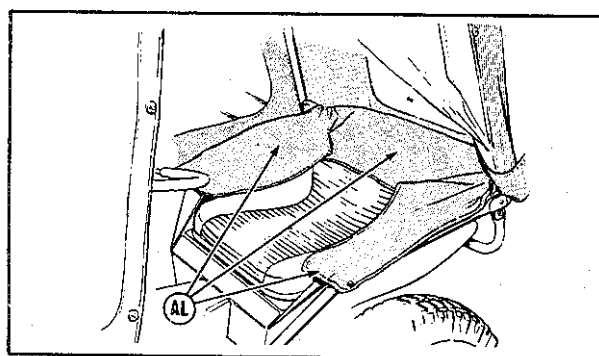

Figure 6
10. Attach the side curtains and the rear enclosure as shown in photo on cover, and in Figure 6. Note that the front edge of the side curtains overlap the windshield to allow the operator to reach through to adjust discharge spout of snow thrower. Secure the lower rear edge of the Top Canopy after the rear enclosure is in place.